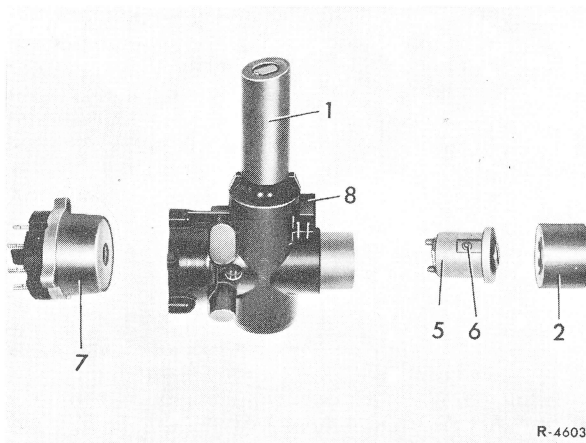

Fig. 1
- 3 Unscrew fastening screws for ignition starting switch (7) from steering lock (1) with a short screwdriver and remove ignition starting switch (Fig. 1 and 2).